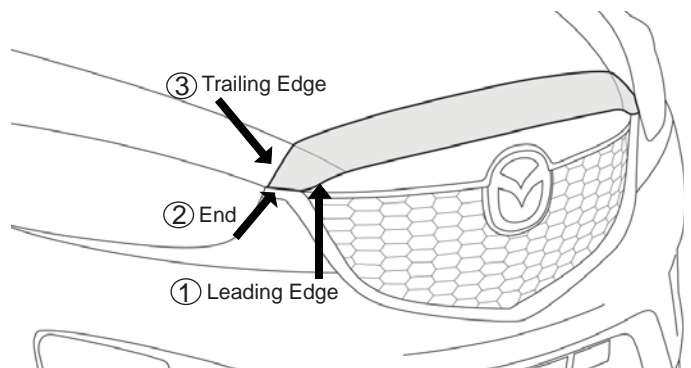

Fig. 5
- Locate the tape liner flag for the **lower** (leading) edge of part. (Fig. 5; Flag 1 in Fig 6) Slowly remove tape liner along the length of the part. (Fig. 6)
9. Locate the tape liner flag for the **end** of part. (Fig. 5; Flag 2 in Fig. 7) Slowly remove tape liner along the end of the part. (Fig. 7)
10. Locate the tape liner flag for the **upper** (trailing) edge of part. (Fig. 5; Flag 3 in Fig. 8) Slowly remove tape liner along the length of the part. (Fig. 8)